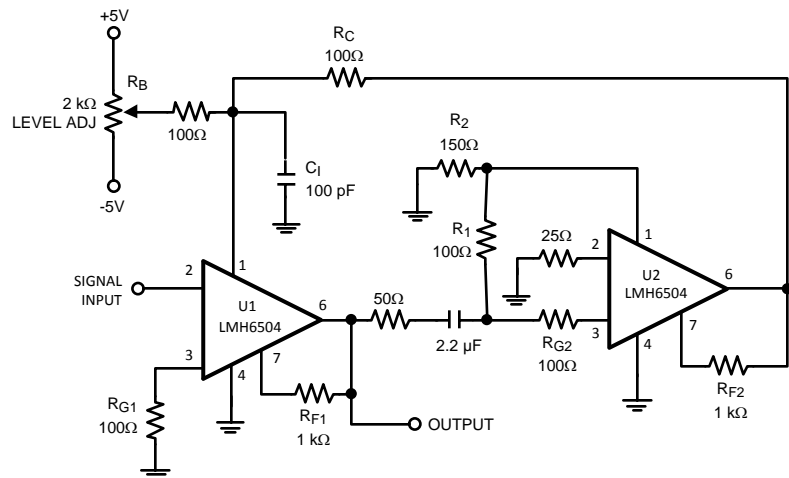

Figure 50. Automatic Gain Control Circuit #2
**Figure 50** illustrates an automatic gain control circuit that employs two LMH6504's. In this circuit, U1 receives the input signal and produces an output signal of constant amplitude. U2 is configured to provide negative feedback. U2 generates a rectified gain control signal that works against an adjustable bias level which may be set by the potentiometer and  $R_B$ .  $C_1$  integrates the bias and negative feedback. The resultant gain control signal is applied to the U1 gain control input  $V_G$ . The bias adjustment allows the U1 output to be set at an arbitrary level less than the maximum output specification of the amplifier. Rectification is accomplished in U2 by driving both the amplifier input and the gain control input with the U1 output signal. The voltage divider that is formed by  $R_1$  and  $R_2$ , sets the rectifier gain.